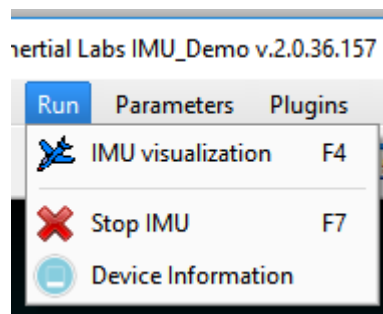

Fig.3.3
**Run** Menu contains the IMU control commands (Fig.3.3).
2. It is required for the device to be Stopped while working in the Devices Option window. To stop the IMU select “**Stop IMU**” in the “Run” menu or press **F7** key (Fig.3.3).